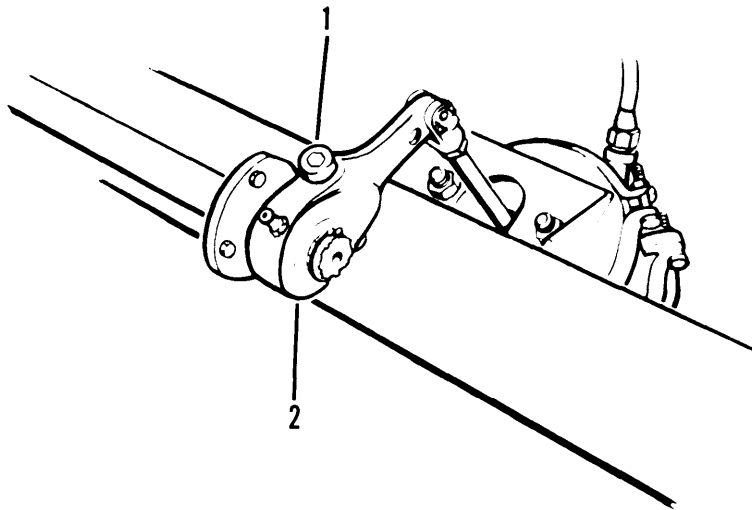
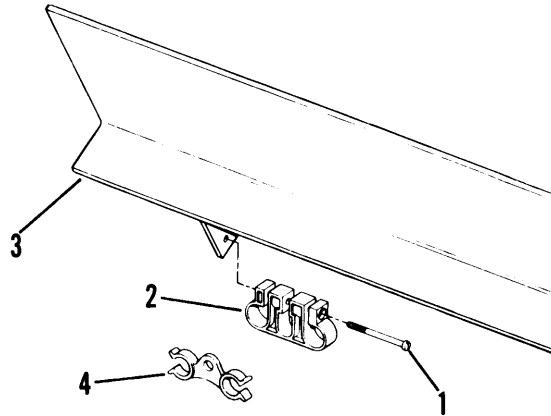
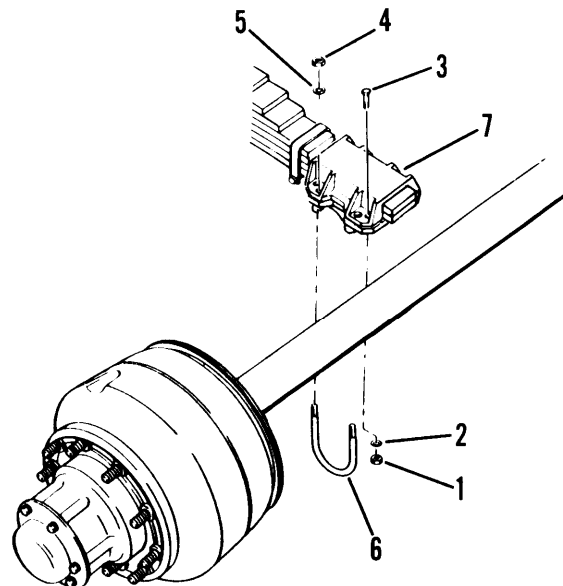

Figure 5-1. Slack Adjuster
Figure 5-2. Hose Clamp
Figure 5-3. Axle Replacement
- (1) Support main frame of semitrailer and front axle.
- (2) Turn the slack adjuster nut (1, fig. 5-1) on the slack adjuster (2) counterclockwise to release spring forces. Repeat for other side of axle.
- (3) Tag and disconnect air hoses from the emergency relay and multi-function valves.
- (4) Remove screw (1, fig. 5-2) from hose clamp (2) on suspension support bracket (3). Repeat for other three hose clamps.
- (5) Remove hose separators (4) from air hoses (5).
- (6) Tag and disconnect air hoses from rear spring brake chambers.
- (7) Remove four nuts (1, fig. 5-3), washers (2) and bolts (3). Repeat for other side of axle.
- (8) Remove four nuts (4), washers (5) and two u-bolts (6). Repeat for other side of axle.
- (9) Remove spring cap (7) from each side of axle. Slowly lower and remove axle.
- (10) Remove spring brake chambers (para. 4-40), slack adjusters (para. 4-41), hubs and drums (para. 4-47), brake shoes (para. 4-42) and camshafts (para. 4-43) as needed.
- (1) Support main frame of semitrailer and rear axle.
- (4) Tag and disconnect air hoses from front spring brake chambers.
- (5) Remove four nuts (1, fig. 5-3), washers (2) and bolts (3). Repeat for other side of axle.
- (6) Remove four nuts (4), washers (5) and two u-bolts (6). Repeat for other side of axle.
- (7) Remove spring cap (7) from each side of axle. Slowly lower and remove axle.
- (8) Remove spring brake chambers (para. 4-40), slack adjusters (para. 4-41), hubs and drums (para. 4-47) (para. 4-42), brake shoes and camshafts (para. 4-43) as needed.
- (4) Install spring cap (7, fig. 5-3) on each side of axle.
- (4) Install spring cap (7, fig. 5-3) on each side of the axle.
- (5) Install two u-bolts (6), four washers (5) and nuts (4). Torque to 300 lb ft (408 Nm). Repeat for other side of axle.
- (6) Install four bolts (3), washers (2) and nuts (1). Torque to 180 lb ft (244 Nm). Repeat for other side of axle.
- (7) Connect air hoses to rear spring brake chambers.
- (8) Install hose separators (4, fig. 5-2) on air hoses (5).
- (9) Install air hose (5) in hose clamp (2). Secure hose clamp (2) to suspension support bracket (3) with screw (1). Repeat for other three hose clamps.
- (10) Connect air hoses to the emergency relay and multi-function valves.
- (11) Adjust slack adjusters (para. 4-30).
- (12) Install tires and wheels (para. 4-45).
- (13) Close drain cocks (para. 3-8).
- (14) Remove axle and frame supports.